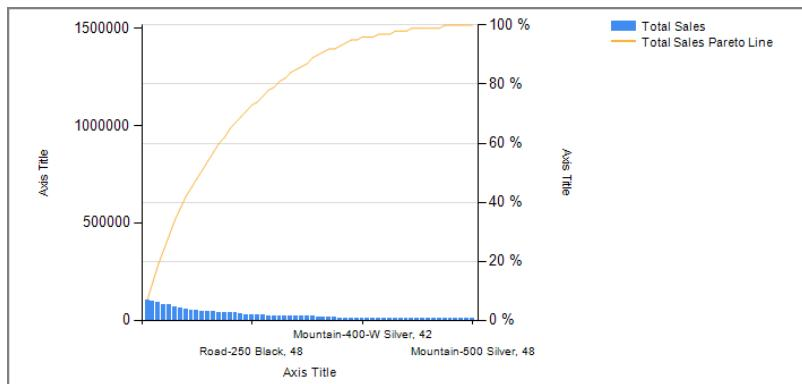

Figure 13-13
7. At first glance, the change does not appear to have made any noticeable difference in the design view. The magic behind this property occurs when you preview the report, as shown in Figure 13-13.